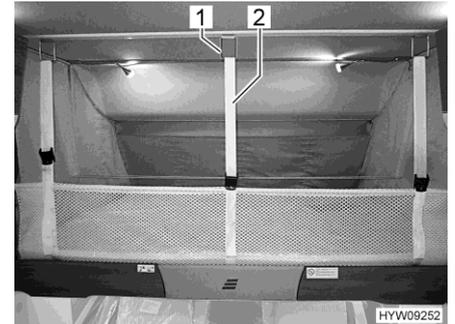

Fig. 92 Safety net (pull-down bed)
- Release retaining belts (Fig. 92,2) and place safety net underneath mattress.
- Attach the retaining belts (Fig. 92,2) to the hooks (Fig. 92,1) on the ceiling.